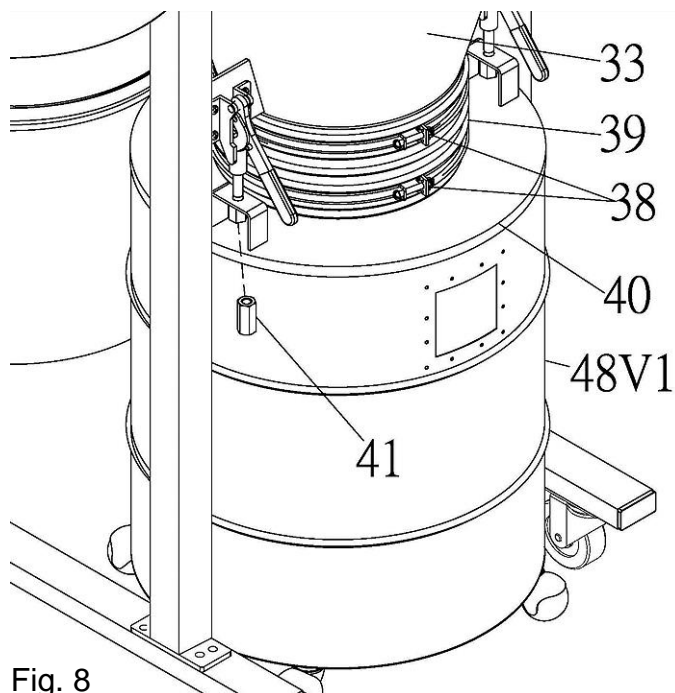
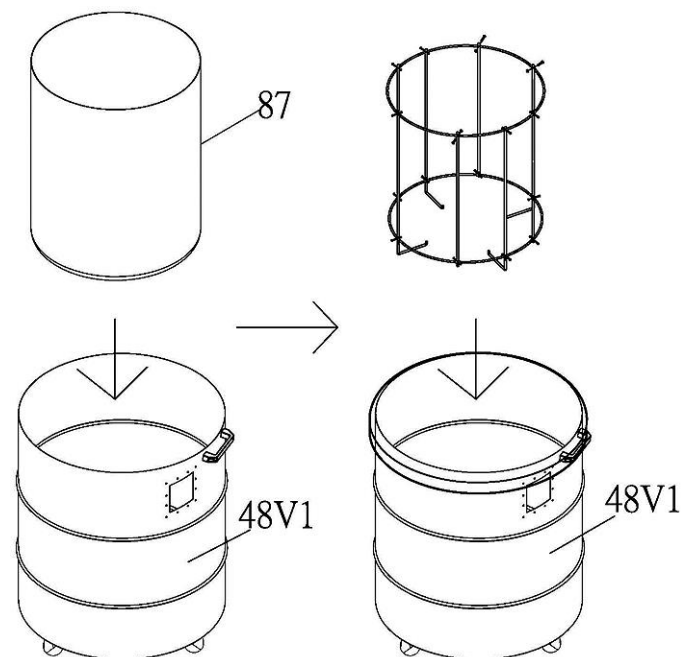

Fig. 8
Fig. 9
10. Assemble and tighten Hose (NO.39) on Cone (NO.33) and Drum lid (NO.40) with Hose clamp (NO.38). See FIG. 8
11. Put the PE Bag (NO. 87) into the Drum (NO. 48v1) first, then placed the inner frame inside the PE bag in order (Fig.8) to press the bag down. See FIG. 9